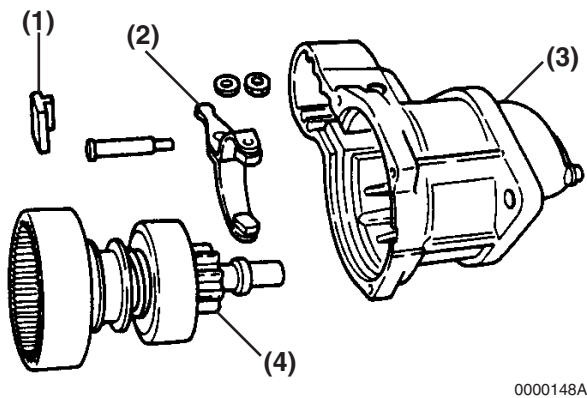

Figure 4-6-30
4. Apply a small amount of high temperature lithium grease (obtain locally) to the contact surfaces of the shift lever. Reassemble the shift lever (**Figure 4-6-30, (2)**), spacer (if equipped) (**Figure 4-6-30, (1)**), and pin.
5. Reinstall the pinion shaft assembly (**Figure 4-6-30, (4)**) in the pinion housing (**Figure 4-6-30, (3)**). Be sure the shift lever properly engages the pinion.